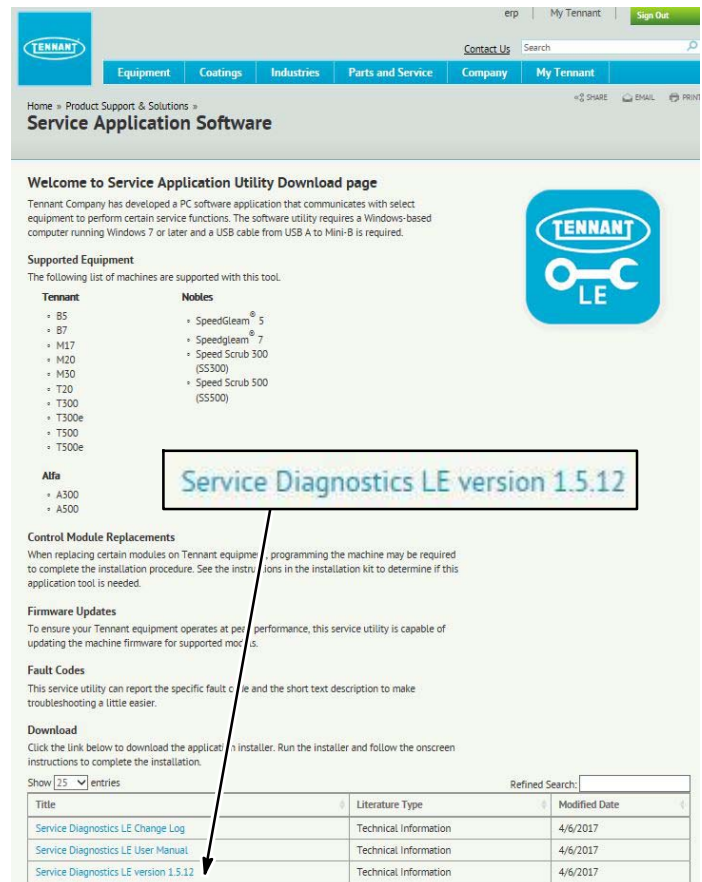

Fig. 37
3. Within the Service Application Software page, click on the link titled “Service Diagnostics LE version 1.5.12” or later to download the application installer then click the Save button (Figure 37).